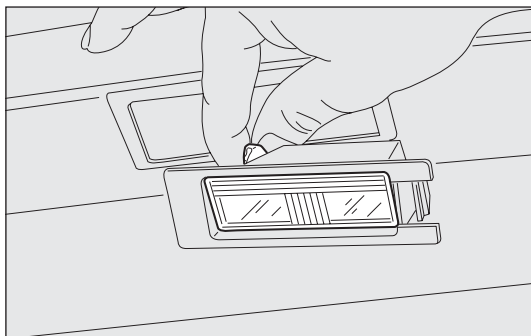

fig. 179
- ☐ change the bulb fig. 179 by releasing it from the side contacts and making sure the new bulb is correctly fastened between these contacts;